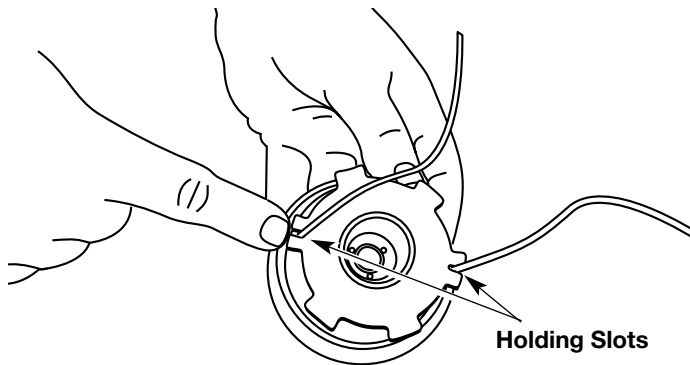

Fig. 24
8. Insert the ends of the line into the two holding slots (Fig. 24).